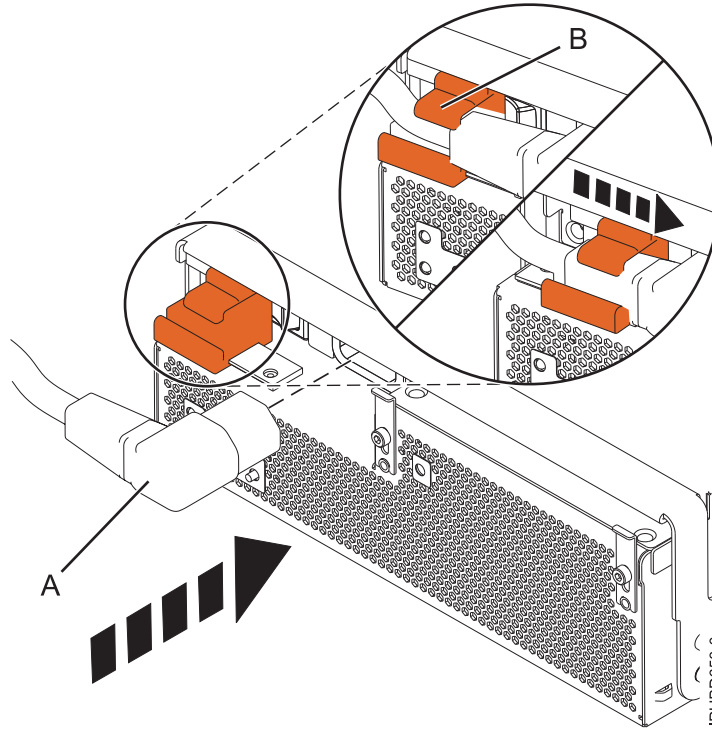

Figure 64. Connecting the power cable to the front of an expansion unit
8. Reconnect the power cable **(A)** to the front of the power supply, and then slide the cable retention bracket **(B)** to the closed position to secure the cable as shown in Figure 64 on page 77. By moving the bracket to the closed position, you turn on the power supply.